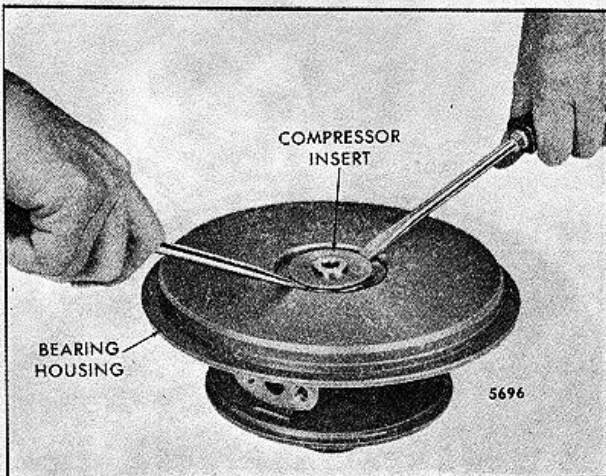

FIG. 9 Removing Compressor Insert from Bearing Housing
9. Remove the compressor insert from the bearing housing by prying evenly and gently with screw drivers placed under the lip of the insert (Fig. 9).